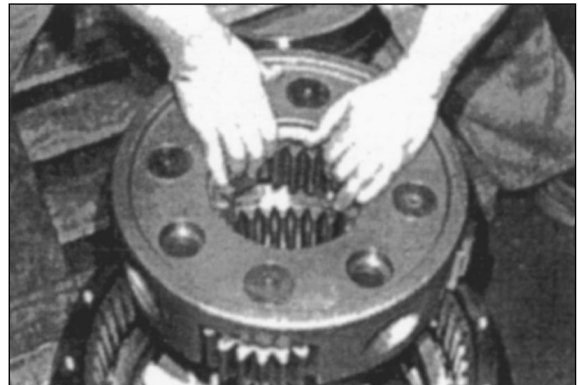

Figure 88
26. Remove third shift assembly from hub. Figure 88.